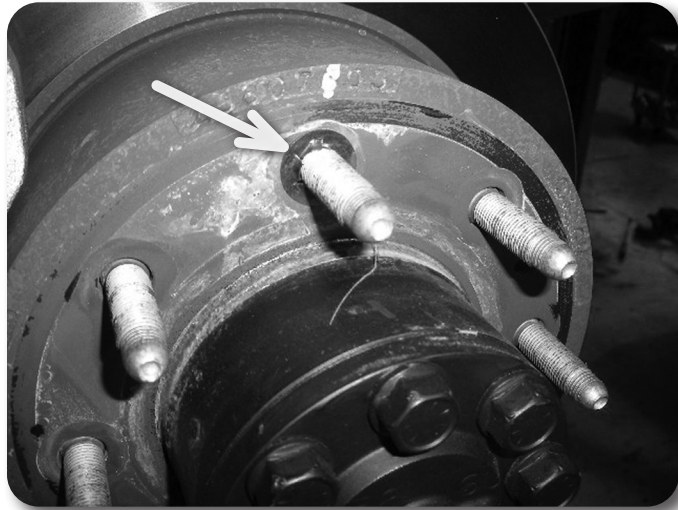

Figure 58
16. Remove clips on wheels **Figure 58**. Reinstall wheels and lower vehicle to the ground. Torque u-bolts to 125 ftlbs. Torque lug nuts to 140 ft-lbs.